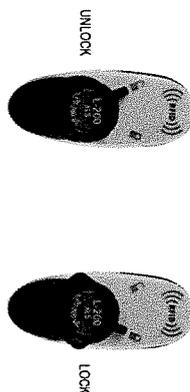

Figure 2: Volume Lock Control
1. Turn the volume lock lever to the "unlock" position so the volume setting mechanism is unlocked and free to turn. See left image in Figure 2.
4. Turn the volume lock to the "lock" position (Fig. 2 above) to prevent changes to the volume setting. Some volumes for the 200 µL model are shown in Figure 4.